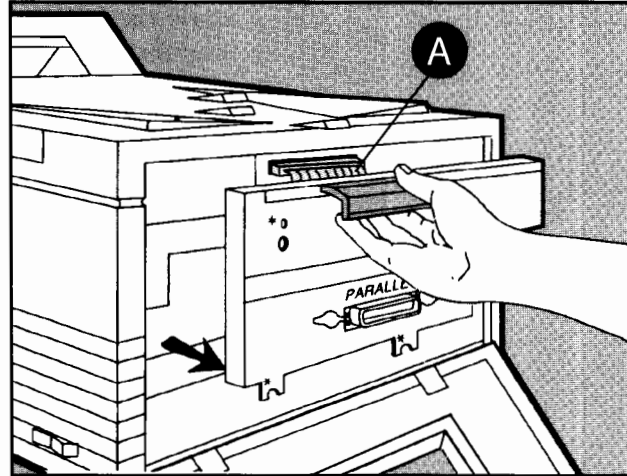

Figure F-4. Removing the Interface Plate
7. Pull the interface plate out gently toward you and downward (see figure F-4). Disconnect the ribbon-cable pin connector (A), from the printer and set the interface plate aside.